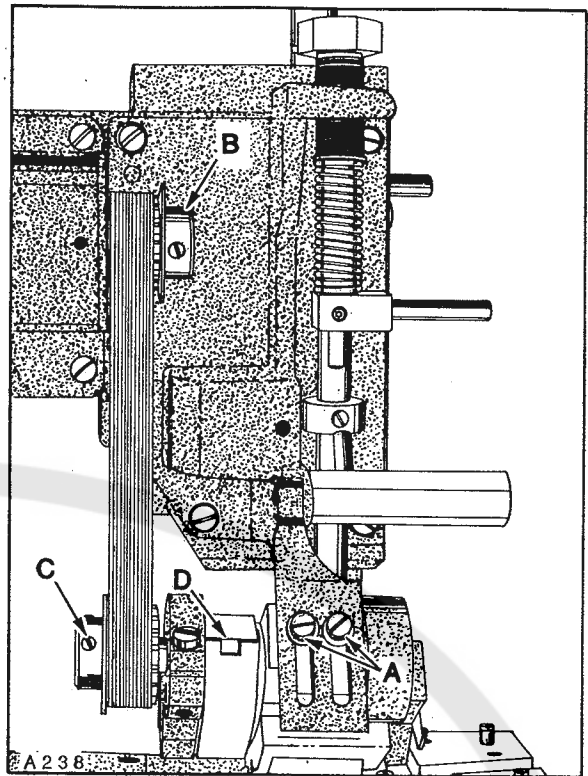

Fig. 35
To change sprockets loosen two screws (A, Fig. 35) and position screws to top of bracket to release tension on stitch length drive belt. NOTE: Belt guard has been removed for clarity. With drive belt in relaxed position, sprocket (B and C) can be removed. When installing sprockets (B and C) make sure that hub of sprocket is flush with end of shaft and 1st screw in operating direction is on the flat of shaft. Reassemble drive belt, tighten 2nd screw in sprockets (B and C) securely. Rotate handwheel in operating direction to make sure belt does not bind within belt guard. It may be necessary to reposition sprockets (B and C) slightly (left or right). Pull down firmly on puller assembly, making sure puller roller is setting evenly on Idler Roller and tighten two screws (A) securely.